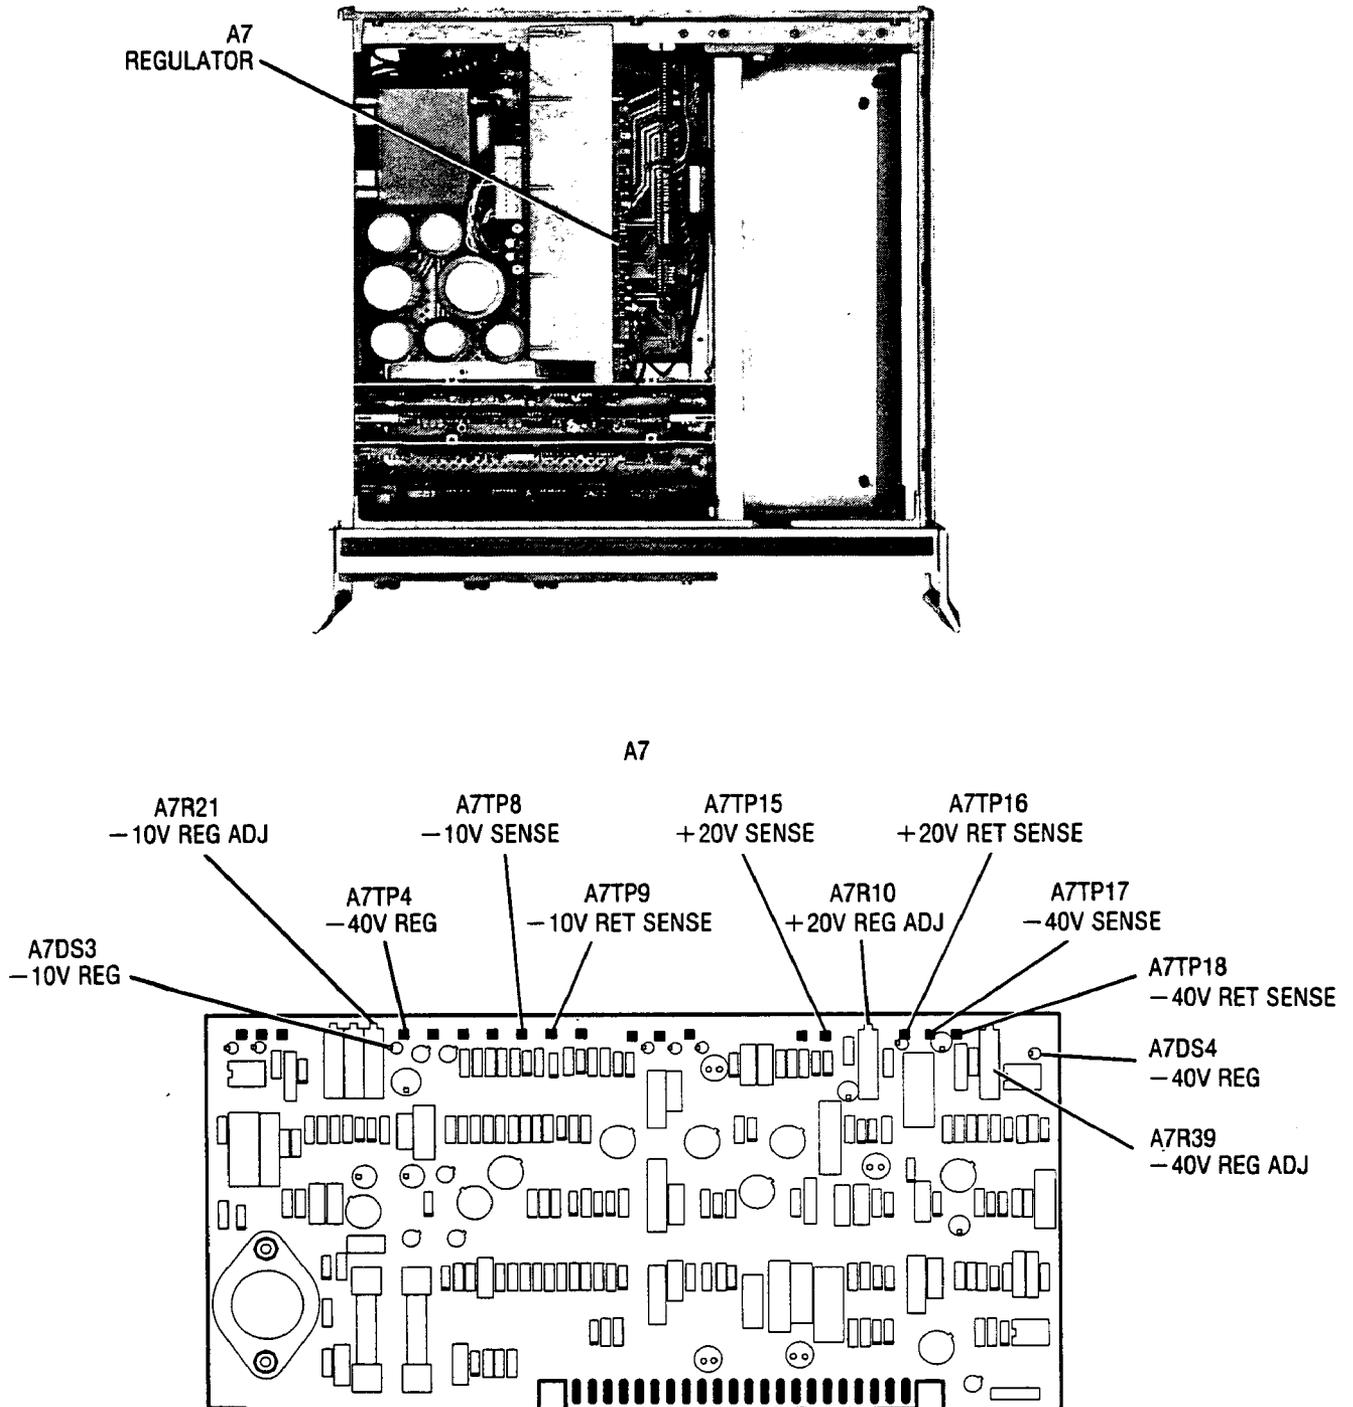

Figure 5-2. Location of +20V, -40V, and -10V Power Supply Adjustments
4. Connect the DVM input LO terminal to A7TP16 (+20V RETURN SENSE), and input HI terminal to A7TP15 (+20V SENSE). A7DS2 (green LED) should be lit. Refer to Figure 5-2 for A7 regulator component locations.